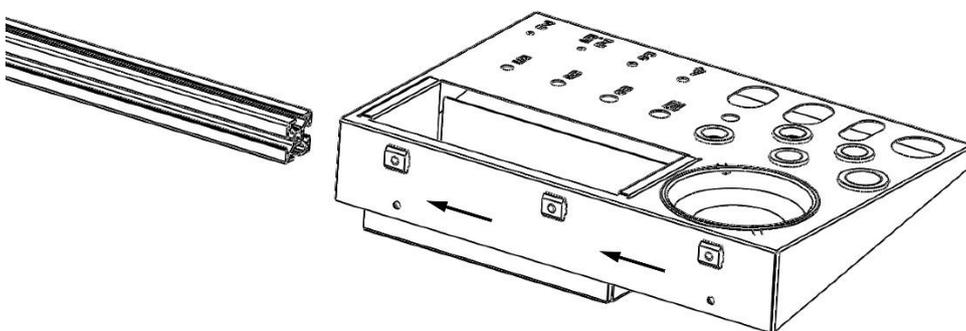

Figure 7
5. Slide the Add-On's groove nuts into the groove of the hinged arm segment (Figures 7 through 9). Tighten the screws with a 4 mm hex wrench.